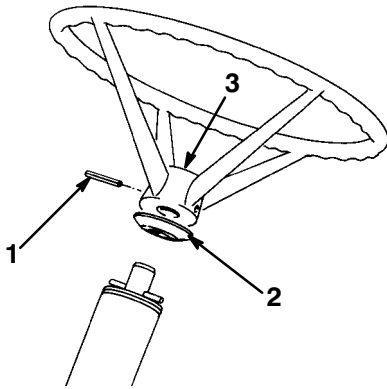

Figure 3
2. Slip the spacer onto steering shaft until the groove in the spacer fits over the roll pin in the shaft (Fig. 3).
3. Slip the steering wheel over the shaft and align the steering wheel mounting hole with the shaft mounting hole (Fig. 3). The Toro logo on the steering wheel insert should be readable from the operator's position.
5. Drive the roll pin in until it is flush with the outside of the wheel (Fig. 3).